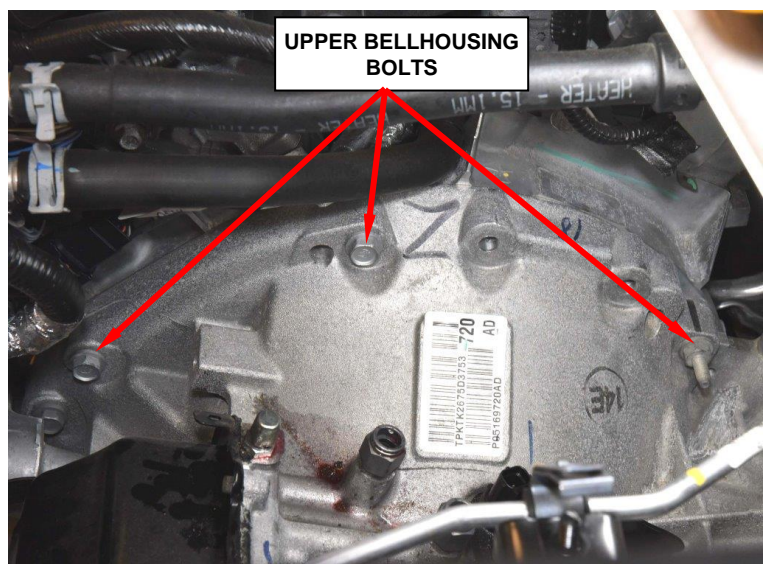

Figure 6 – Transaxle Bellhousing Bolts
19. Remove and save the upper transaxle bellhousing bolts and studs (Figure 6).